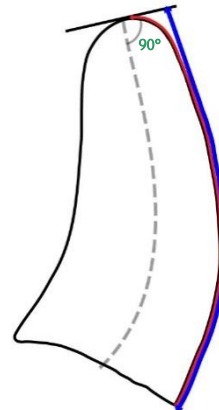

Figure 4
1. Length. Measure the length of the upper tusks on the front (longest) curve. (Figure 2, L) Walrus tusks do not end in a 90-degree cut like on a metal pipe but rather have jagged edges very much like elephant and hippo ivory. For the purposes of the length measurement, a line should be drawn that is at a strict 90-degree angle to the axis of the tusk along the highest point of any ending on the tusk. (Figure 3) From this line one must measure the length to the tip. Many walrus’s tusks are very worn off (or sometimes broken) if this is so they must be carded off (Figure 4)